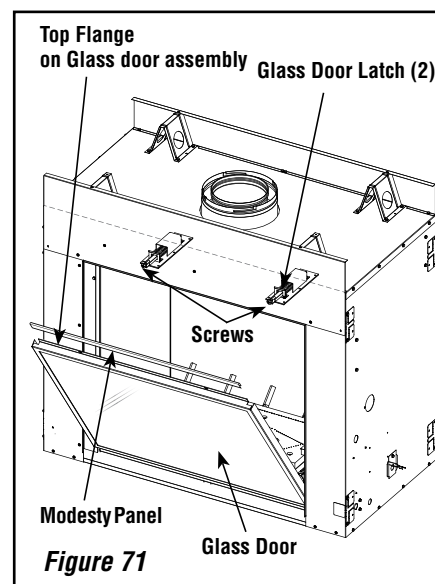

Figure 71
Installing Glass Doors, Barrier, and Modesty Panel (see Figure 71)
- b) Position the door in front of the firebox opening, with the top of the door held away from the fireplace (see Figure 71).
- d) Using a #3 Phillips screwdriver, fasten the door frame to the door latches with the two (2) latch screws. The latches should pull forward to engage the door frame.
- 2) Install the modesty panel on the top flange of the glass door, as follows (Figure 71):
Removing Glass Doors, Barrier and Modesty Panel (see Figure 71)
- a) See Figure 71. While holding the top of the glass door frame in place, use a #3 Phillips screwdriver to remove the two (2) screws securing the door frame to the two (2) door latches.
- b) Carefully tilt the top of the glass door frame away from the unit (as shown in Figure 71), and then lift the door assembly up and out of the lower track.